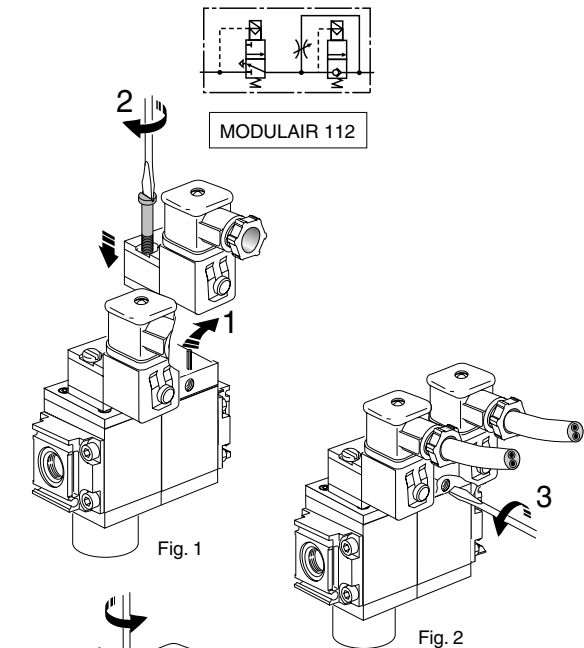

Fig. 1
* Important: if a pilot is to be installed on the solenoid/air controlled soft-start device, the pin (6) must first be removed (see Fig. 1 overleaf)
- ① Pilot(s) supplied separately
- ② Connector size 15 rotatable by 90° increments (pilot 302)